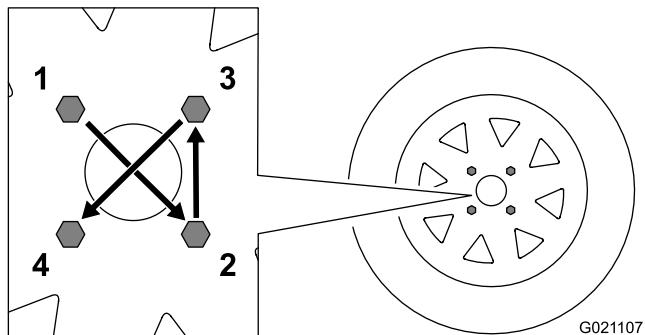

Figure 15
**Note:** Torque the lug nuts in the sequence shown in Figure 15.